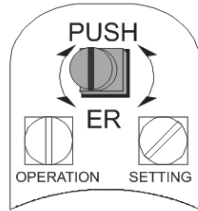
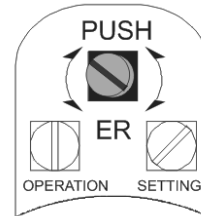

Figure 10.2-1
Figure 10.2-2
- Disengaged **PUSHER** shaft (Figure 10.2-2): With a suitable screwdriver press the **PUSHER** shaft 3 mm and turn it 45°, ensure that it does not return to its original height (Figure 10.2-1).
- Note: **PUSHER** shaft allow to engage/disengage the switching and signalling unit from Electric actuator gears. (Figure 10.2-1 and Figure 10.2-2).
- **ENGAGE PUSHER SHAFT:** Turn back PUSHER shaft. Check that goes back to its initial position (Figure 10.2-1). **This point is fundamental for the correct setting of the limit switches: Ensure that PUSHER shaft is correctly engaged.**
- **ENGAGE PUSHER SHAFT:** Turn back **PUSHER** shaft. Check that goes back to its initial position (Figure 10.2-1). **This point is fundamental for the correct setting of the limit switches: Ensure that PUSHER shaft is correctly engaged.**